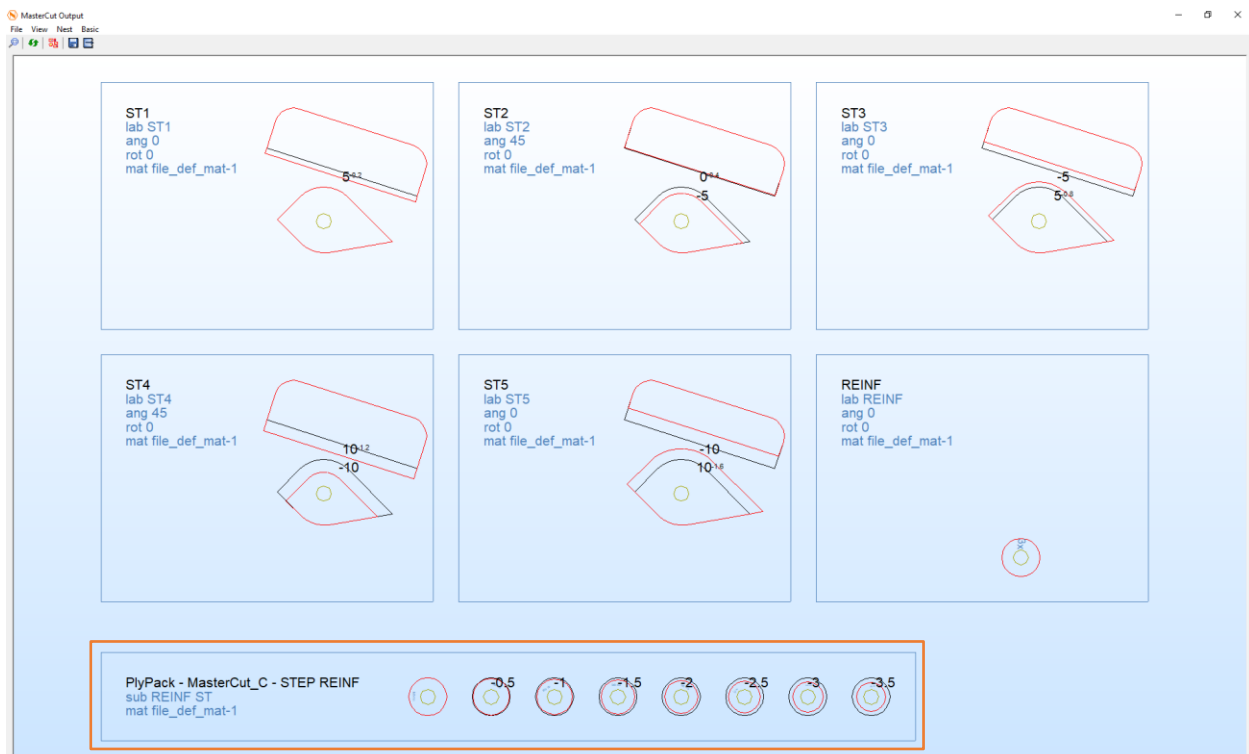

Figure 201
14. PlyPacks (or Patches) are added after the Standard MasterCut RawCuts (Figure 201).